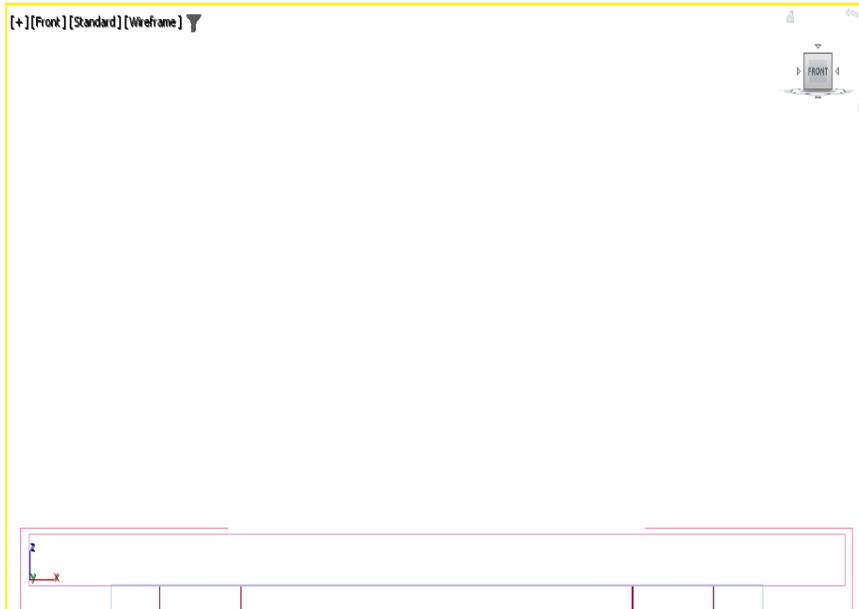

Figure 5-9 The center of Table zoomed in the Front viewport
2. Invoke the **Zoom Region** tool from viewport navigation controls and zoom in on a small area surrounding the center of *Top*, as shown in Figure 5-9.